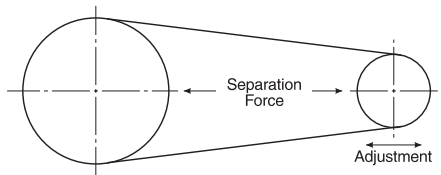

Figure 6 - Shaft Separation
**Shaft Separation:** Belt installation tension can be applied directly by exerting a force against either the driveR or driveN shaft in a simple 2 point drive system (see Fig. 6). The resulting belt tension will be accurate as the force applied to the driveR or driveN shaft. This method is considerably easier to perform than the force/deflection method, and in some cases more accurate.